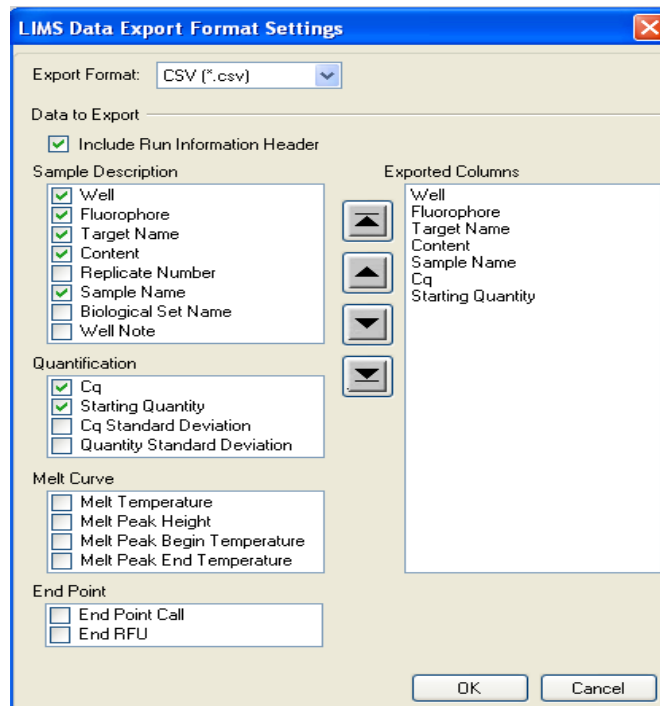

Figure 100. LIMS Data Export Format Settings window.
3. Click the **Data Export Settings** button to specify the file format to be used for the exported data and which information fields will be exported (Figure 100).